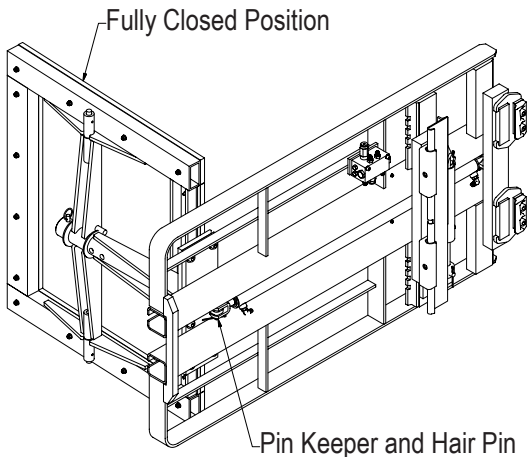

Figure 5-2, Arm Removal
1. Retract the arm fully closed. Remove the pin keeper and hair pin from cylinder. (Figure 5-2)